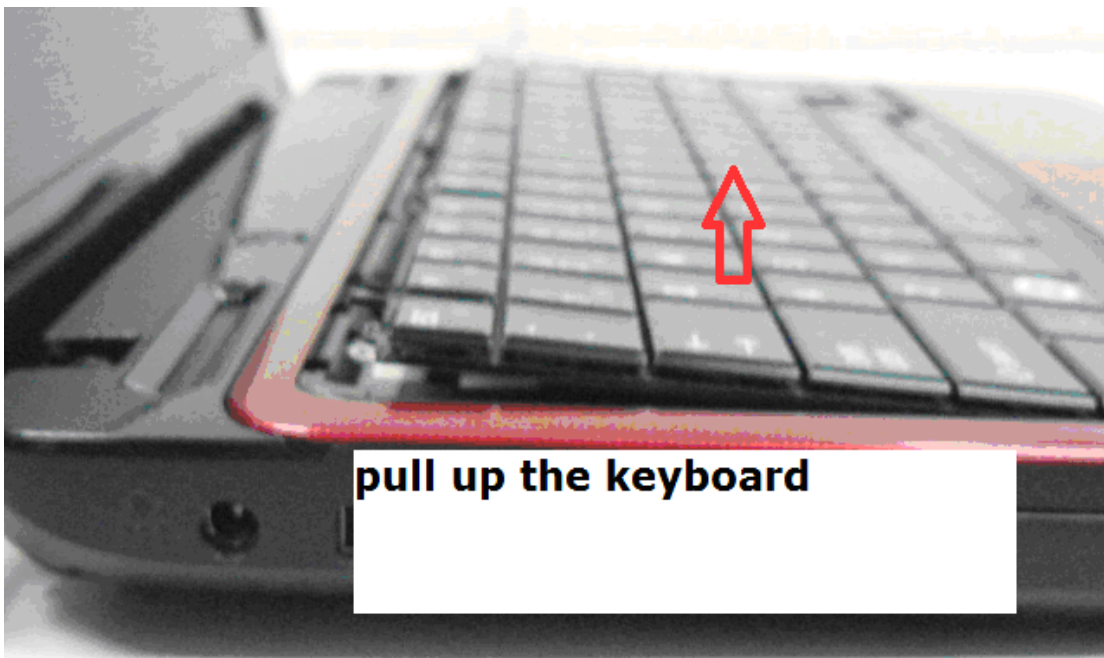

Figure 4-3-4 Pull up the keyboard
6. Pull up keyboard.(see Figure 4-3-4)